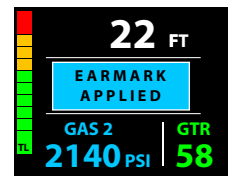

Fig. 48B - DECO STOP MAIN (during 3 sec message)
- > Full TLBG (TL), red indicates that status is Deco.
- M (< 2 sec) - to apply a snapshot Earmark to the PCI data recorded at that time. *The graphics EARMARK APPLIED will be displayed in place of Stop information for 3 seconds (Fig. 48B).*